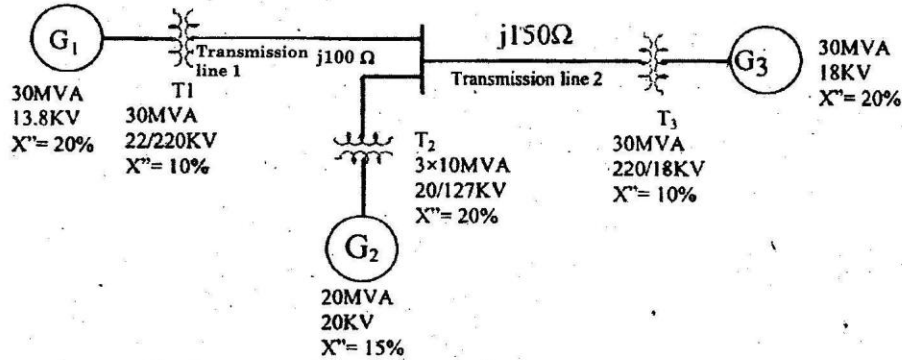

Figure 11. (a)
11. (a) The single line diagram of a power system is shown in figure. 11. (a) along with components data. Determine the new per unit values and draw the reactance diagram. Assume 25 MVA, and 20KV as new base on generator G_1 . (16)